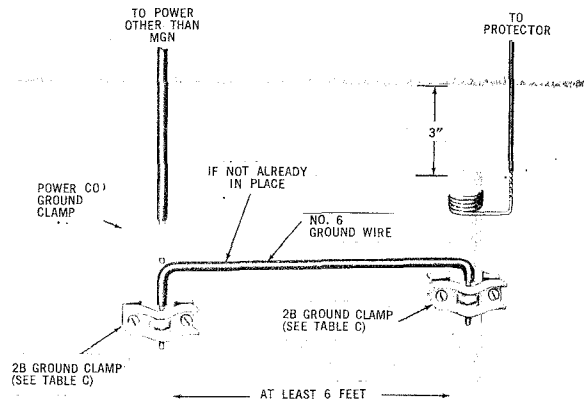

Fig. 36 — Power Other Than MGN Grounded to Ground Rod—No Water Pipe
rods, bond the two rods together as shown in Fig. 36.
- (b) If a power ground rod is available, one telephone ground rod is sufficient. Bond all protectors together and bond telephone ground rod to power ground rod (Fig. 36).